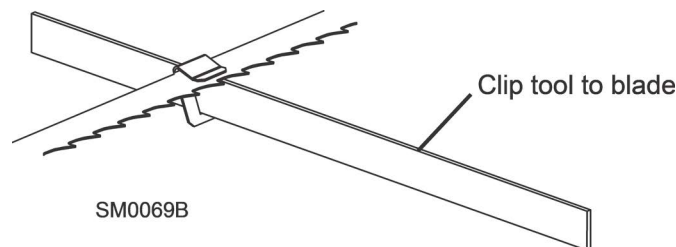

FIG. 7-5
2. Clip the alignment tool on the blade. **See Fig. 7-5.**